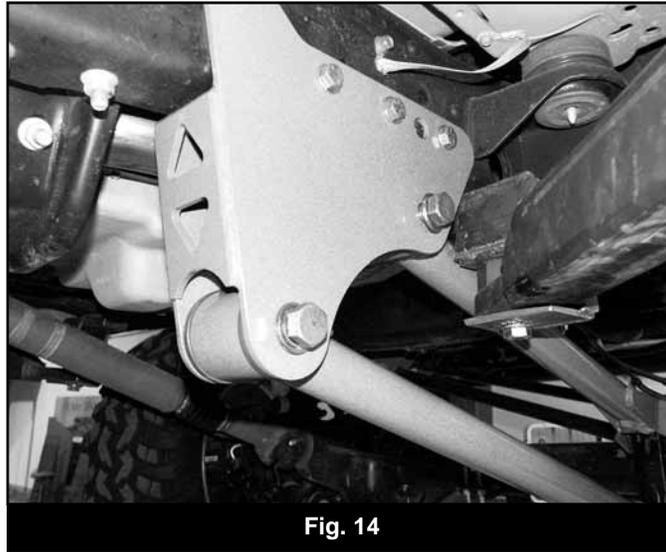

Fig. 14
34. Install the assembled upper control arm in the new frame bracket and fasten with a $\frac{3}{4}$ " x 5-1/2" bolt, nut and $\frac{3}{4}$ " SAE flat washers from bolt pack #432. The two tabs on the control arm go up. Leave hardware loose. (Fig. 14)